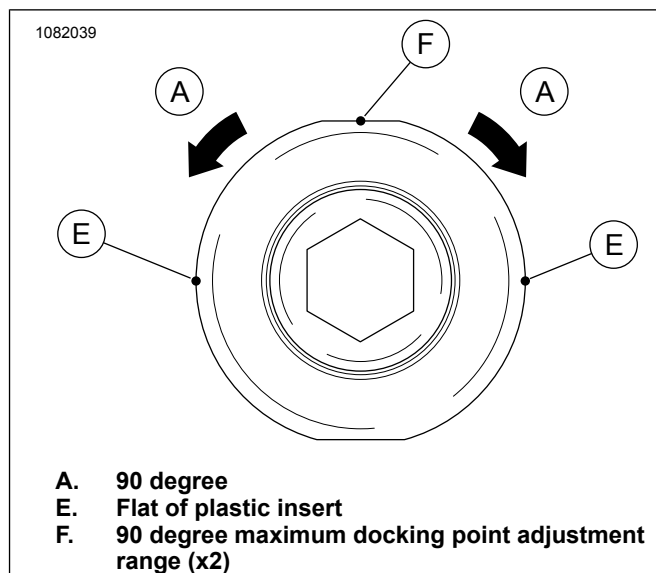

Figure 2. Docking Point Flats
2. See flats (F) in Figure 2. Continue rotation in small increments and check accessory fit until desired tightness is achieved.